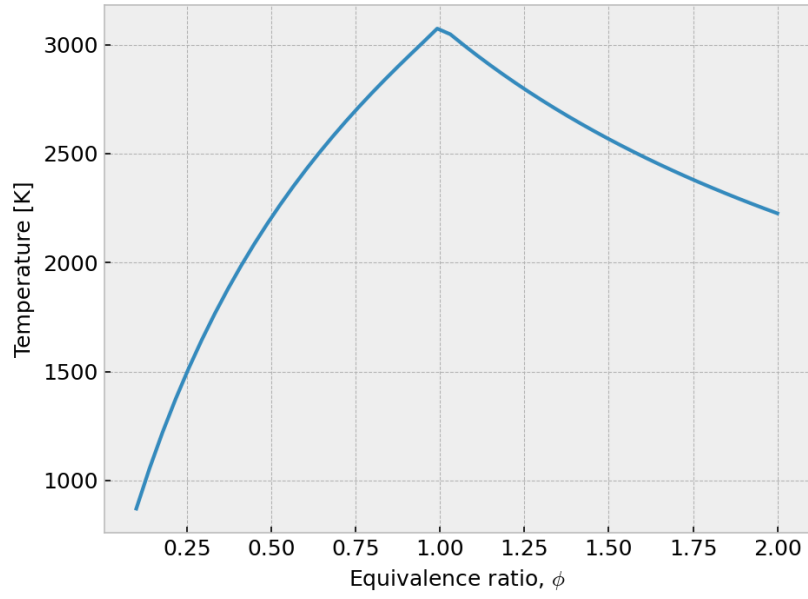

Figure 1.5: Flame temperature for complete combustion.
*Figure 1.5* shows that both simulations achieve similar results. The simulation with limited list of products reaches a slightly higher temperature. This may be due to additional chemical reactions that take place in the gas formed by the Fuller mechanism.